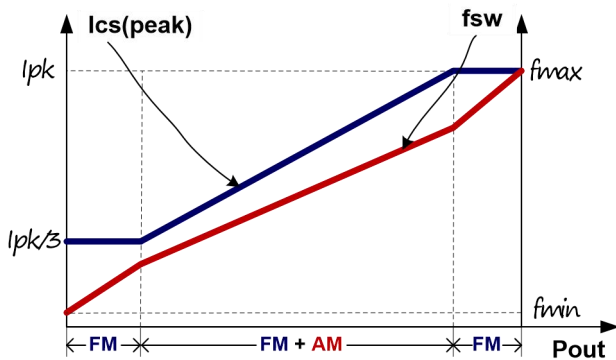

Fig.4
To meet the tight requirement of averaged system efficiency and no load power consumption, a hybrid of frequency modulation (FM) and amplitude modulation (AM) is adopted in DP3773A which is shown in the Fig 4.